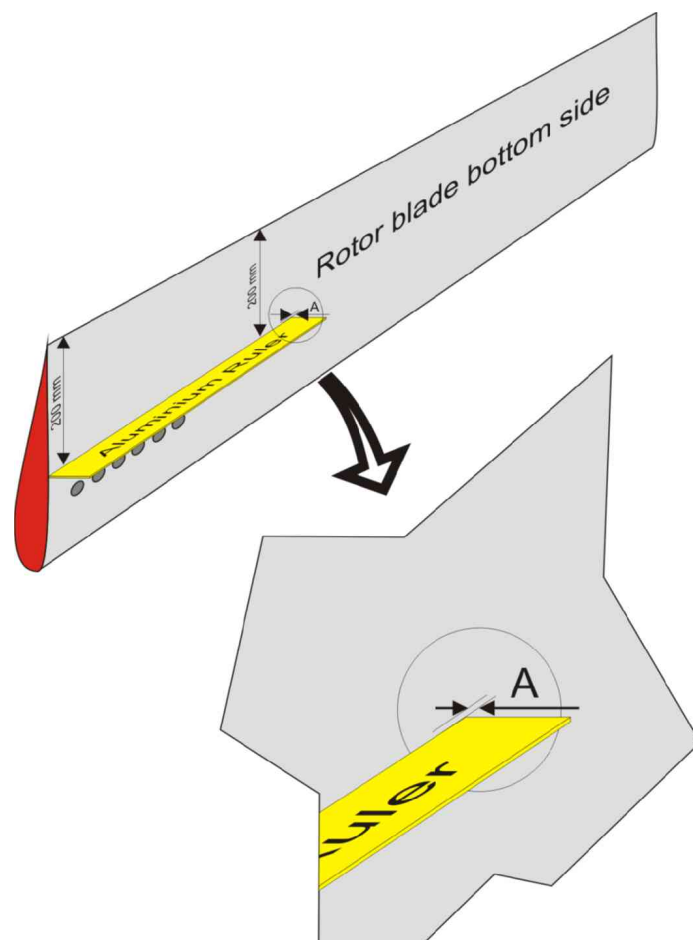

Fig. 2 - Measurement of blade root linearity
- 2 Check each rotor blade in its root section for linearity. In order to do place each rotor blade with the nose section facing down on the support stands and measure gap with an aluminium ruler in 1 m distance from the inner end (see Fig. 2). Maximum allowed gap (dimension A) is 0.5 mm (LTA DULV-2010-004).